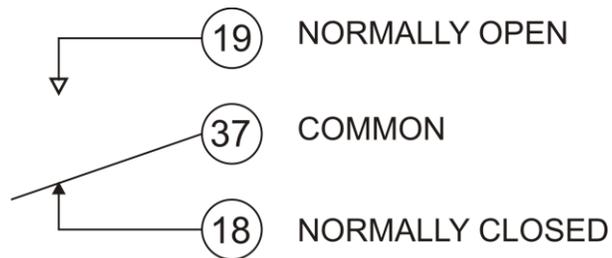

Figure 8. Form C Relay (0) contacts
The Form C relay has a common, normally open (NO) and normally closed (NC) contact. Figure 8 shows the schematic for a Form C relay, like those connected at relay 0 through relay 4.